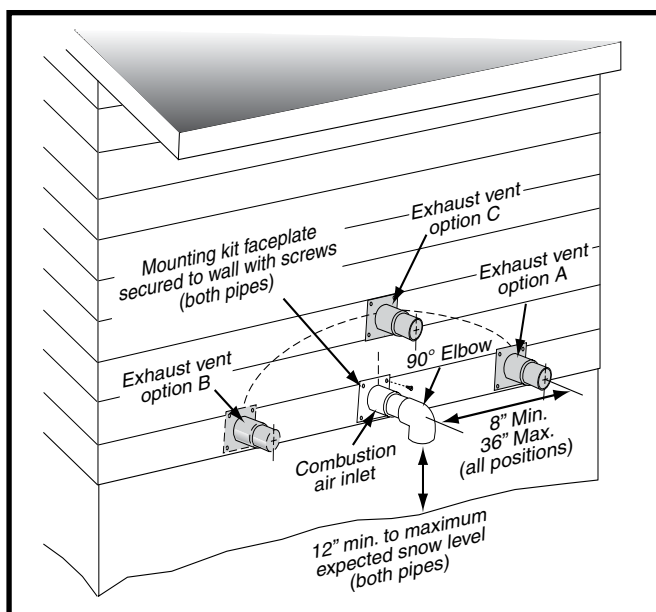
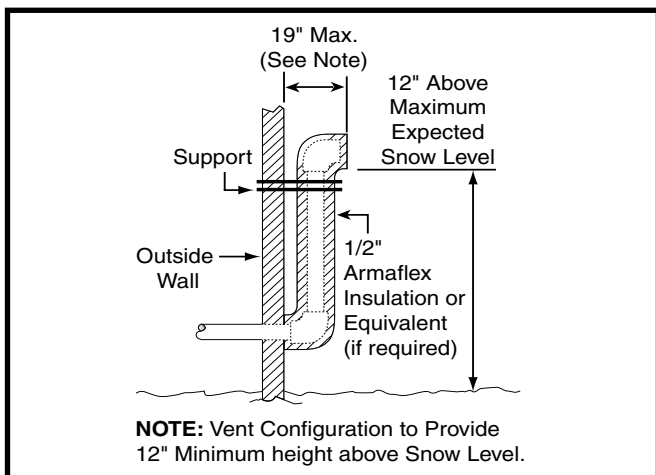

Figure 1. Inlet & Exhaust Pipe Clearances
Figure 3. Alternate Horizontal Vent Installation
- Vent and combustion air intake terminations shall be installed as shown in Figures 1 & 2 (page 9) and in accordance with these instructions:
- When the vent pipe must exit an exterior wall close to the grade or expected snow level where it is not possible to obtain clearances shown in Figure 1, a riser may be provided as shown in Figure 3. Insulation is required to prevent freezing of this section of pipe. See Table 3 (page 10) for vent freezing protection.